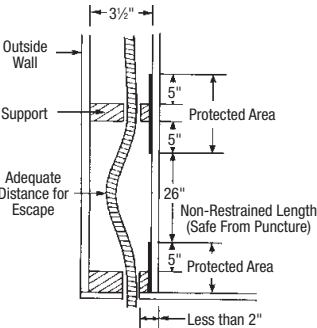

Figure 4.10 Elevated View of Unsupported Horizontal Tubing Run
- 1. At support points and areas of possible penetration less than 2 inches away from any edge of a stud, joist, plate, etc., shielding is required both at the area of support and within 5 inches of each side. (Figure 4.10)